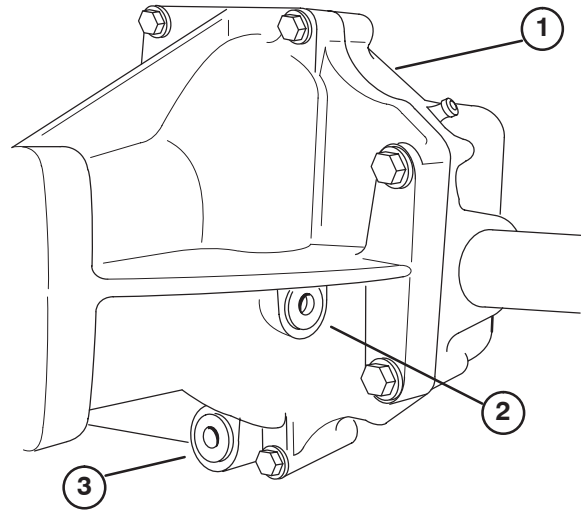

Figure 53
2. Remove drain plug (Fig. 53) from side of reservoir and let hydraulic fluid flow into drain pan.